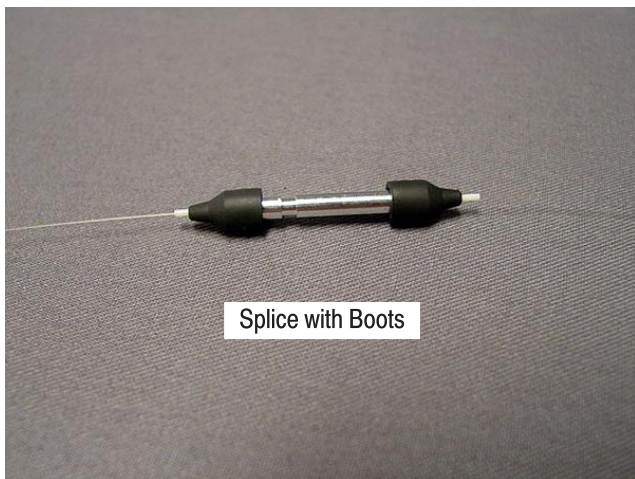

Figure 53
15. The 250- μ m coated fiber termination is now complete. See Figures 53 and 54.